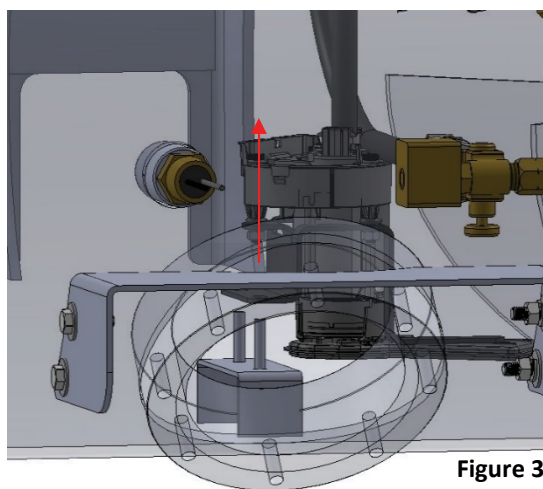

Figure 3
5. Remove fuel pump by lifting straight up. (Figure 3)